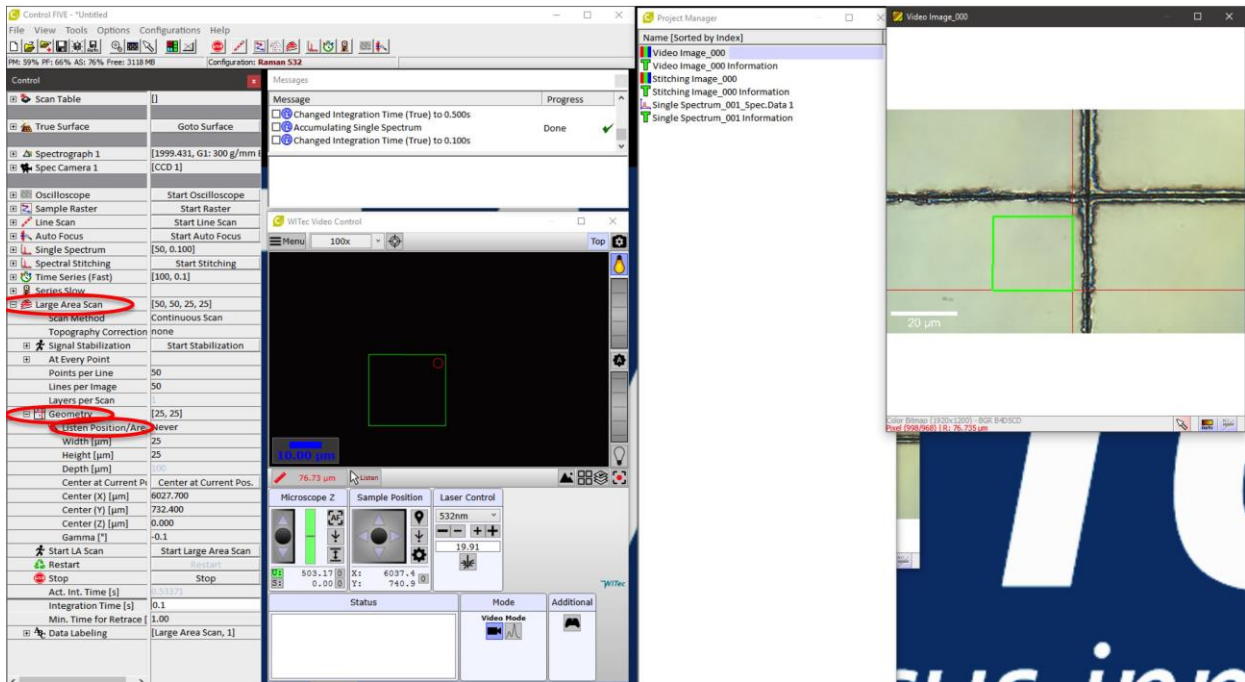

Figure 8
- 11) Expand **Large Area Scan** and Geometry in **Control** window (Fig 8), select the type of **Listen Position/Area** (I suggest **Area Multiple**) and draw an area in the opened video image (green rectangle in the right figure below), you can draw multiple times until you are satisfied. You can also adjust **Width**, **Height**, **Points per Line** and **Lines per Image** in the **Control** window.